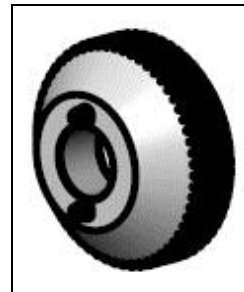

Figure 4: Focusing tool for VIS camera
- The visual camera (PI 200/230 only) is adjusted with the supplied focusing tool (**Figure 4**). For this purpose, the focusing tool with the two pins is placed on the visual camera and is focused to "near" by a left turn and focused to "infinity" by a right rotation.